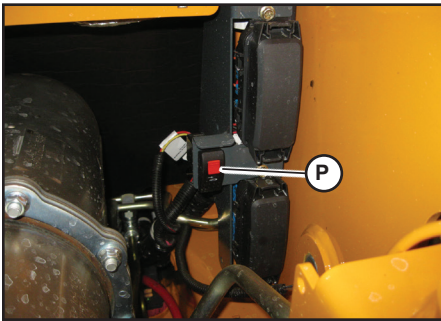

Fig. 97 - Track Tension Switch
2. With the machine running and the drive system not moving, open the engine compartment. Press and hold the red lock button (P, Fig. 97) on the track tension service switch, press the switch to set the track tension cylinders into the service (retracted) position.